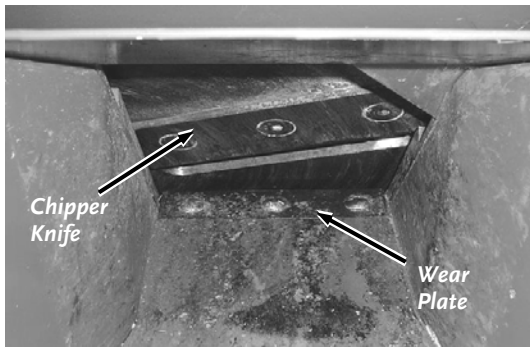

Figure 35
4. Closely inspect the Chipper Knife and Wear Plate for nicks or dull (rounded) edges (**Figure 35**).